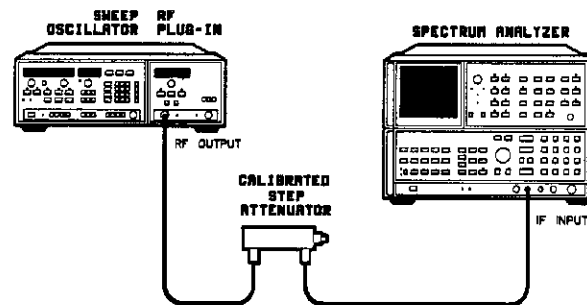

Figure 4-11. Step Attenuator Accuracy Test Setup
1. Connect the equipment as shown in Figure 4-11. Press **[INSTR PRESET]** on both the sweep oscillator and the spectrum analyzer. Allow the equipment to warm up for one hour.